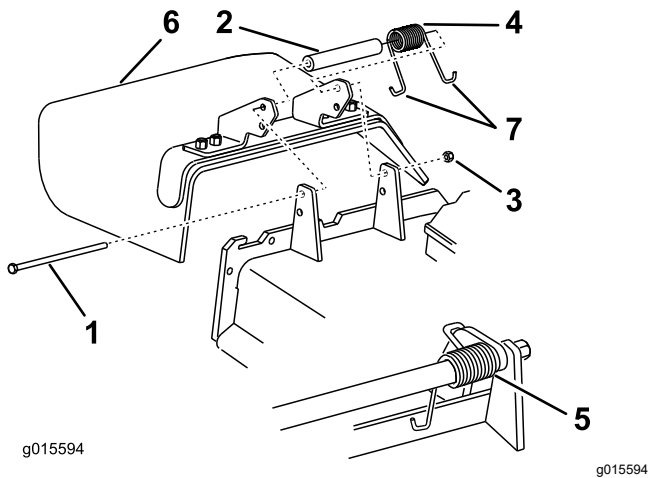

Figure 133
1. Remove the locknut, bolt, spring, and spacer holding the deflector to the pivot brackets (Figure 133).
2. Remove the damaged or worn grass deflector (Figure 133).
Note: Make sure that 1 J-hook end of the spring is installed behind the deck edge before installing the bolt as shown in Figure 133.
6. Place 1 J-hook end of the spring around the grass deflector (Figure 133).